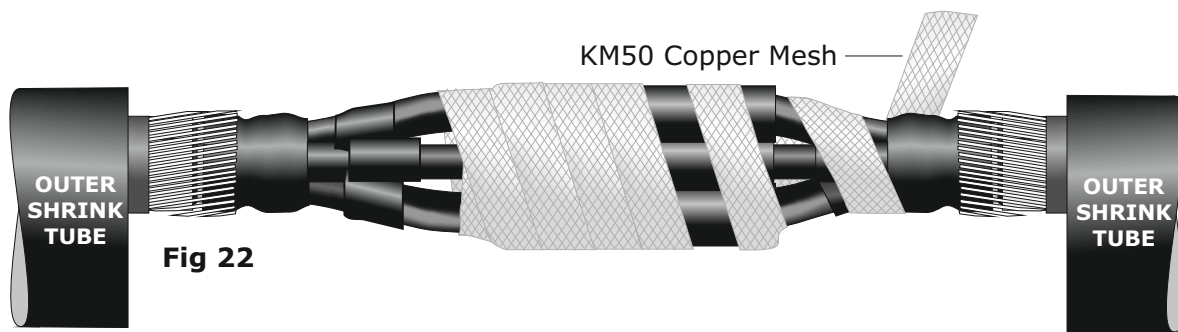

Fig 22
28. Using the tinned copper mesh, pull the cores together. Extend the mesh onto the semi-conductive tubes as shown in Fig 22.